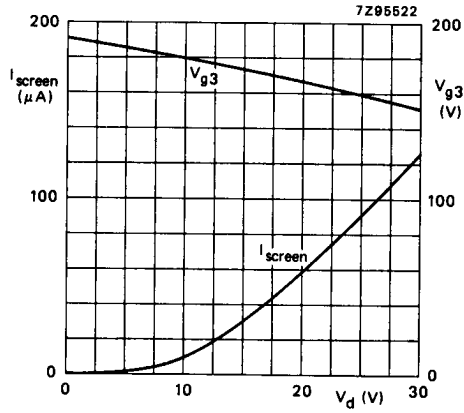

Fig. 5 Screen current ( $I_{screen}$ ) and focusing voltage ( $V_{g3}$ ) as a function of grid drive voltage ( $V_d$ ); typical curves.
5. An actual focus range of 30 V should be provided on the front panel.  $V_{g3}$  decreases with increasing grid drive (see also Fig. 5).
6. Intensity control on the front panel should be limited to the maximum useful screen current (approx. 50  $\mu$ A; see also Fig. 5). It is to be adjusted either by the grid drive (up to 22 V) or for maximum acceptable line width. The corresponding cathode current or  $I_{g_{2,g4}}$  (up to 500  $\mu$ A) depend on the cut-off voltage and cannot be used for control settings.